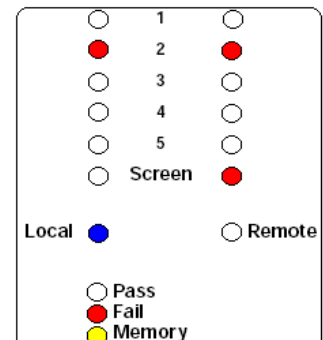

Fig 16. SHORT to Screen.
c) A short to SCREEN, this may be indicated by one, or both the screen LED's being ON in conjunction with another pair of LED's (Fig16).